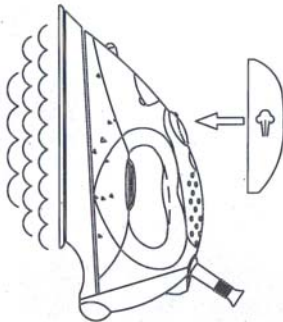

Fig. 6
2. Hold the iron in a vertical position and press the steam button. See Figure 6.